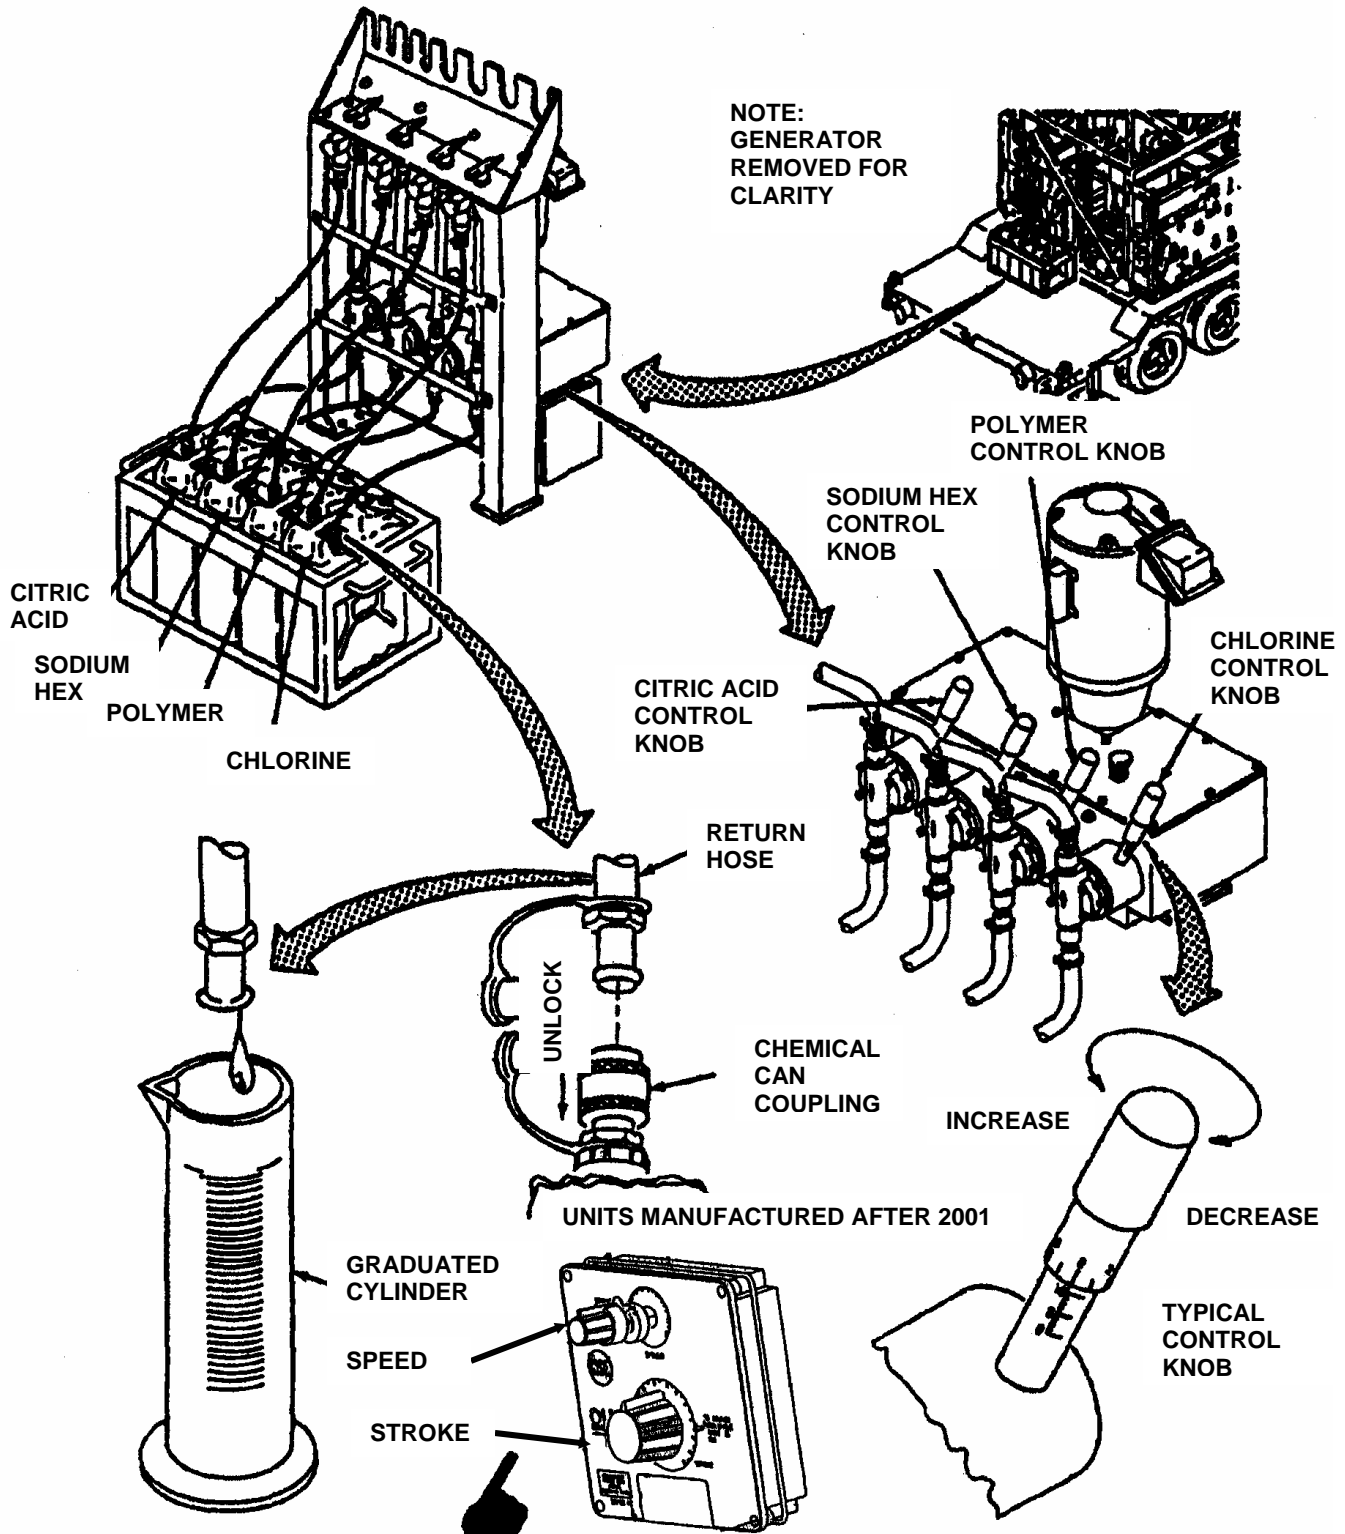
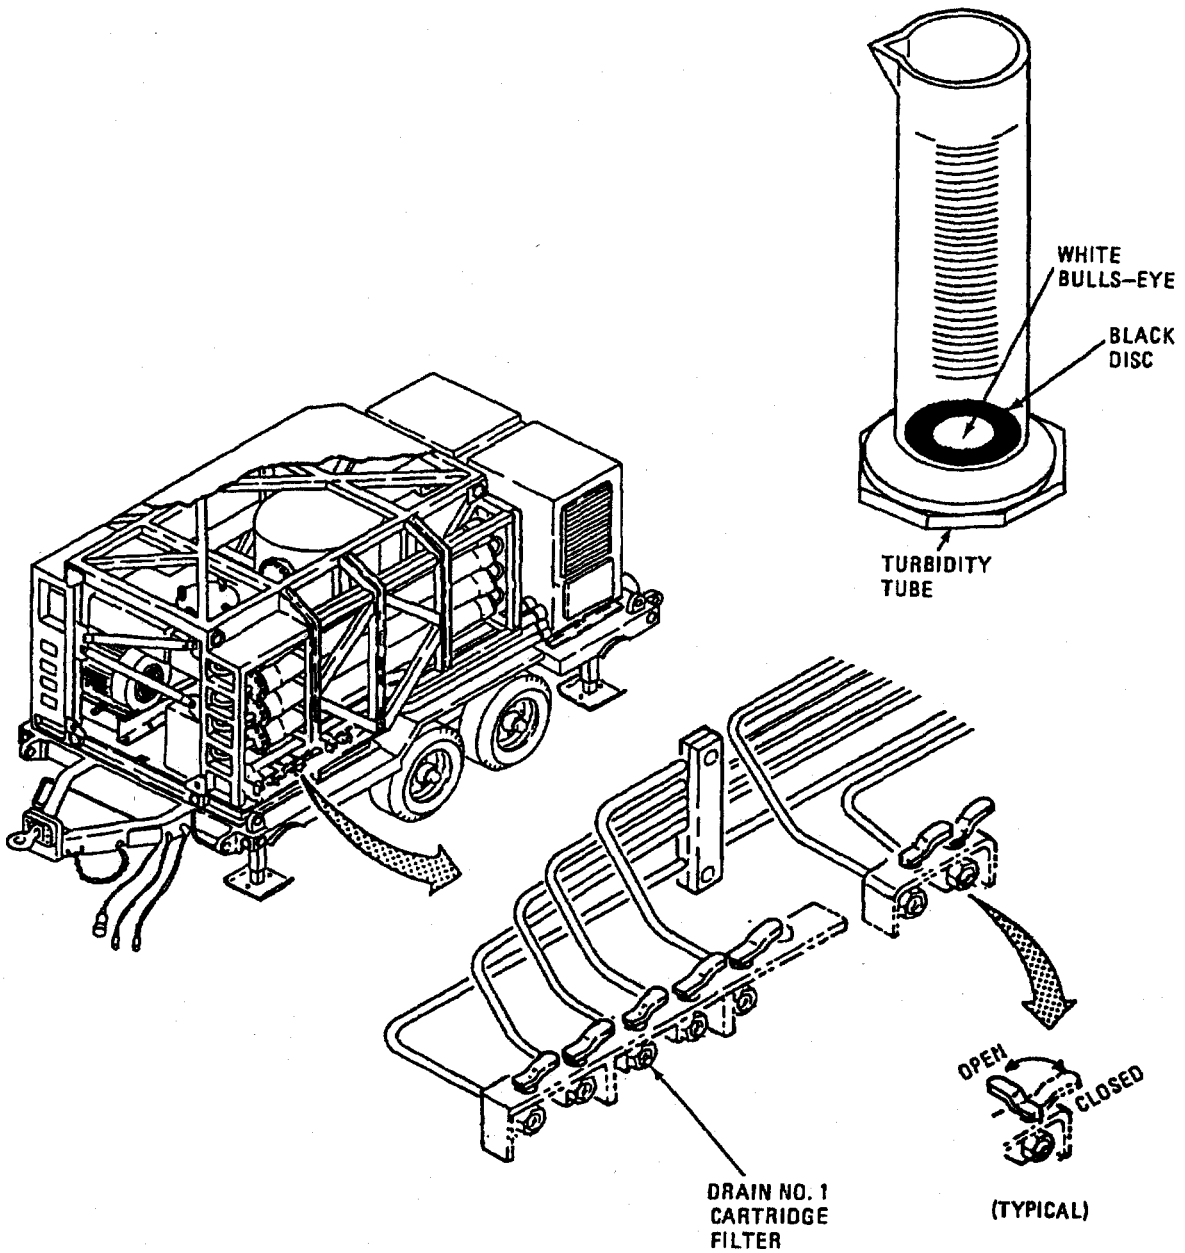

Figure 2-56. Chemical Feed Pump Adjustment.
Figure 2-59. Drain Valves and Turbidity Tube.
- e. Adjust Chemical Feed Pump. Refer to figure 2-56.
- (4) When solution flow has been established in SODIUM HEX and CHLORINE hoses, calibrate the flows as follows (refer to figure 2-56): (On pumps made after 2001 adjust both the stroke and speed to get desired flows)
i. Examine Clarity of Filtered Water. Refer to figure 2-59.
- (1) Get plastic 1000 ml graduated cylinder (called turbidity tube) used for checking clarity of water. The turbidity tube is identified by a white bullseye set in a black background disc.
- (2) Go to the drain valves on the left side of the ROWPU (below R.O. tubes).
- (3) Slowly open DRAIN NO. 1 CARTRIDGE FILTER valve and allow water to flow for 20 to 30 seconds. Draw a sample of 600 milliliters of water into the turbidity tube. Close valve.
- (4) Look down into turbidity tube and you should be able to see clearly both the white bullseye and black disc at the bottom of the tube.
- (5) If both white bullseye and black disc cannot be seen clearly, run the ROWPU another 10 minutes, then repeat steps (3 and 4).
- (6) If after second sampling, white bullseye and black disc still cannot be seen clearly, proceed as follows:
- (a) Increase chemical feed pump POLYMER control knob (figure 2-56) setting by two index marks (turn knob to the left). On pumps made after 2001, increase speed or stroke as necessary.